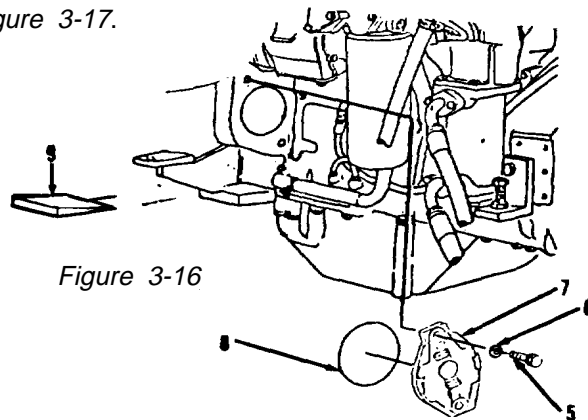
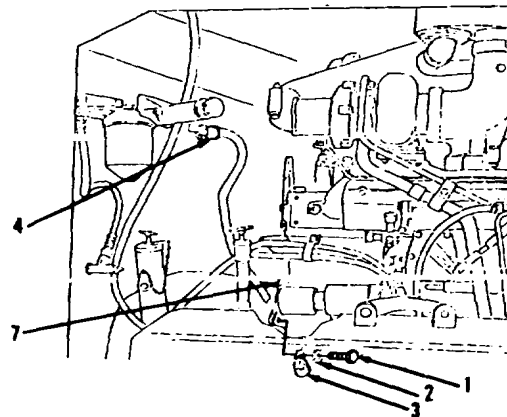

Figure 3-16
Figure 3-15.
6. Position new gasket (13) and cover (12).
7. Install six washers (11) and nuts (10).
8. Position new preformed packing (8), cover (7), two washers (6) and bolts (5, Figure 3-16).
9. Remove spacer (9) from between oil pan plate and engine block on each side of engine.
10. Connect hose assembly (4, Figure 3-15) to fuel priming pump.
11. Install clip (3), washer (2) and bolt (1).